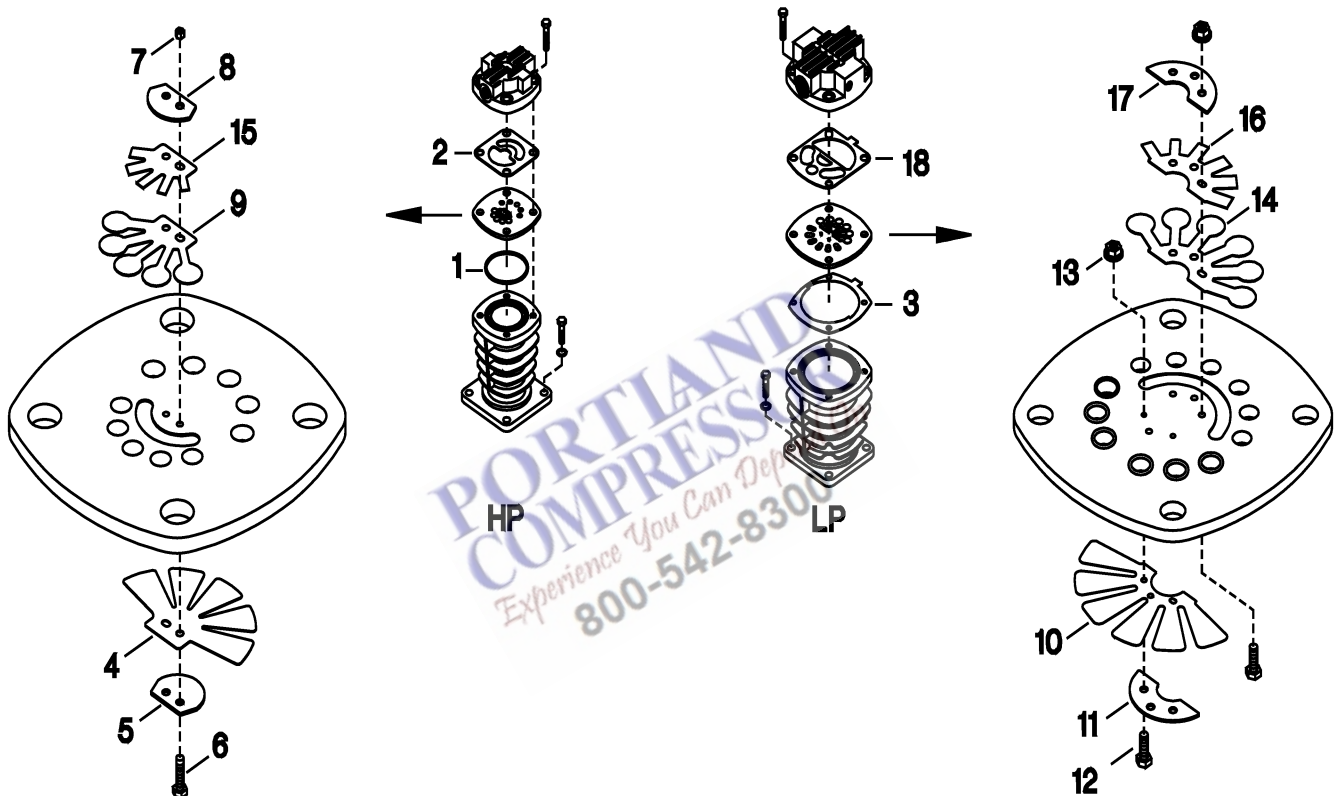

Figure 1. Kit Parts Assembly.
- 2). Carefully align valve plate on cylinder with discharge side facing up (See Figure 1).